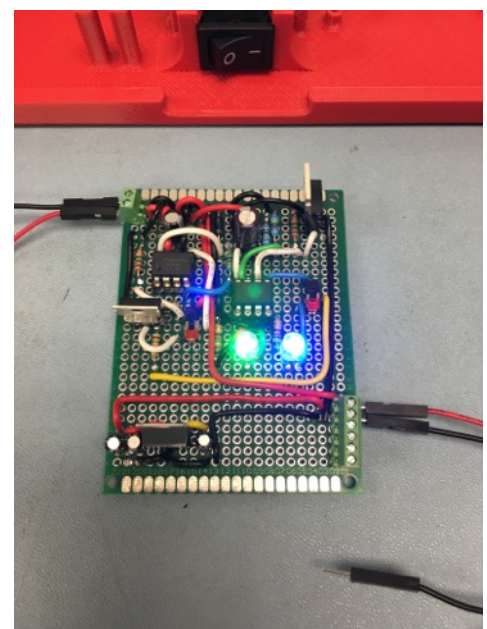

Figure 2.
3. Set the first board switch to BLACK. You should now see a GREEN LED AND a BLUE LED illuminated. Your board is now powering the load (Figure 2).